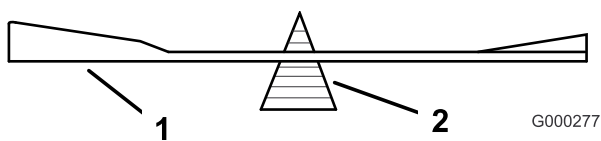
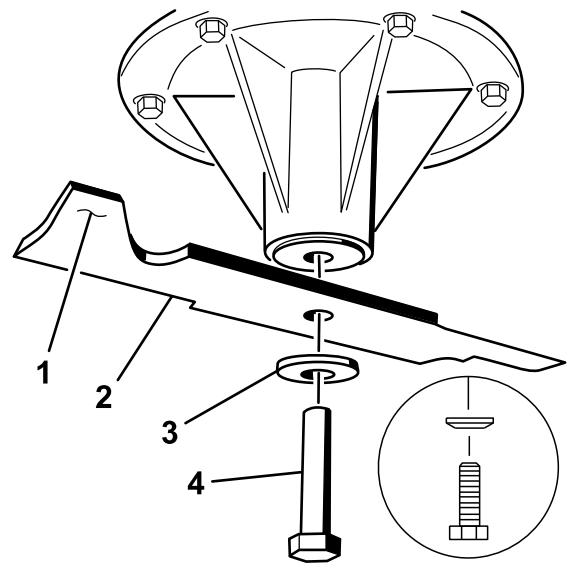

Figure 87
Figure 88
2. Remove the blade bolt, curved washer and blade from the spindle shaft (Figure 88).
2. Check the balance of the blade by putting it on a blade balancer (Figure 87). If the blade stays in a horizontal position, the blade is balanced and can be used. If the blade is not balanced, file some metal off the end of the sail area only (Figure 88). Repeat this procedure until the blade is balanced.
1. Install the blade onto the spindle shaft (Figure 88).
2. Install the curved washer and blade bolt. The curved washer cone must be installed toward the bolt head (Figure 88). Torque the blade bolt to 85-110 ft-lb (115-150 N-m).